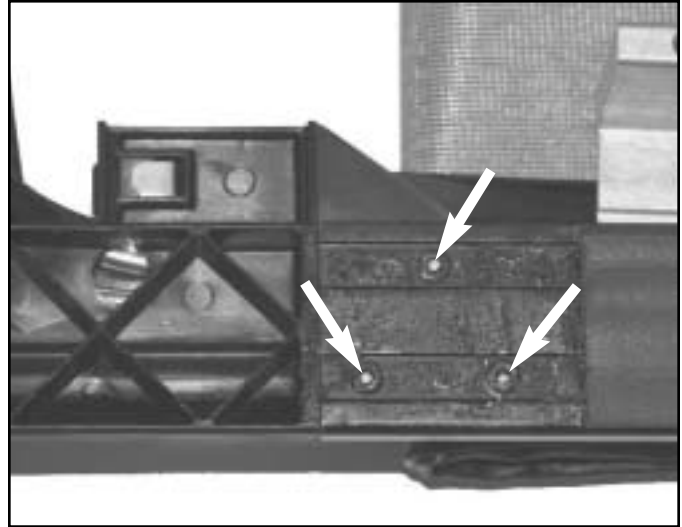

Figure S-10
4. Peel back the foam tape 11 inches (28 cm) from the front rail to the track on the side being replaced to expose the three (3) retaining rivets. See figure S-10.